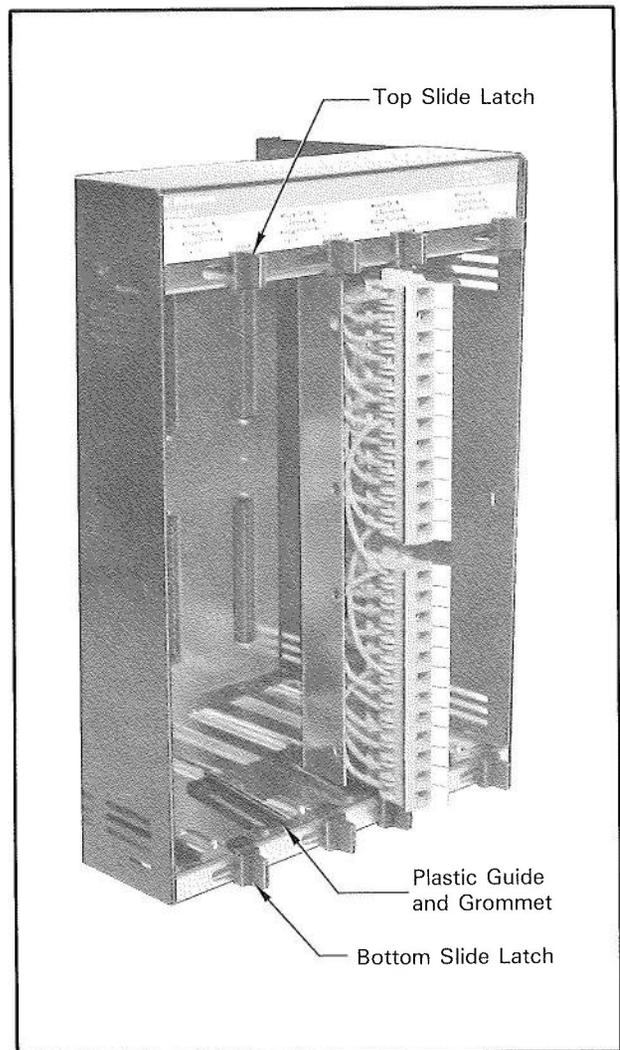

Figure 13 – Horizontal Rack with Terminal Raceway in Extended Position
**Step 4** — Pull the Terminal Raceway for the appropriate I/O Rack module slot forward until it stops; lock the Raceway in the extended position (Figure 13) using the top and bottom slide latches.